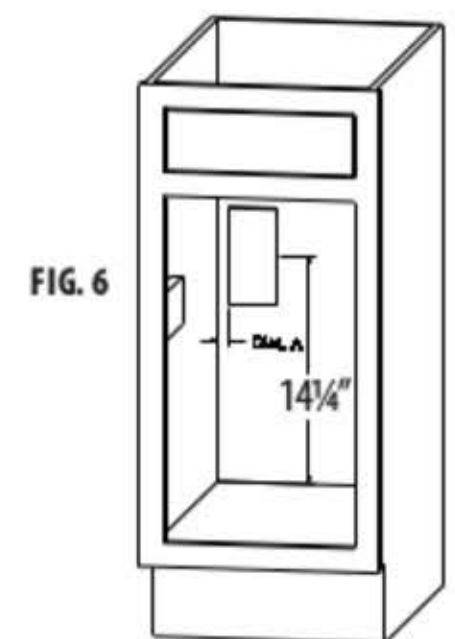

FIG. 6
7. If rear cabinet wall is thinner than 1/2", install a 1/2" x 3" x 6" wide furring strip to the back of cabinet centered 14 1/4" from cabinet floor and "Dim. A" away from the side cabinet wall (see fig. 6).